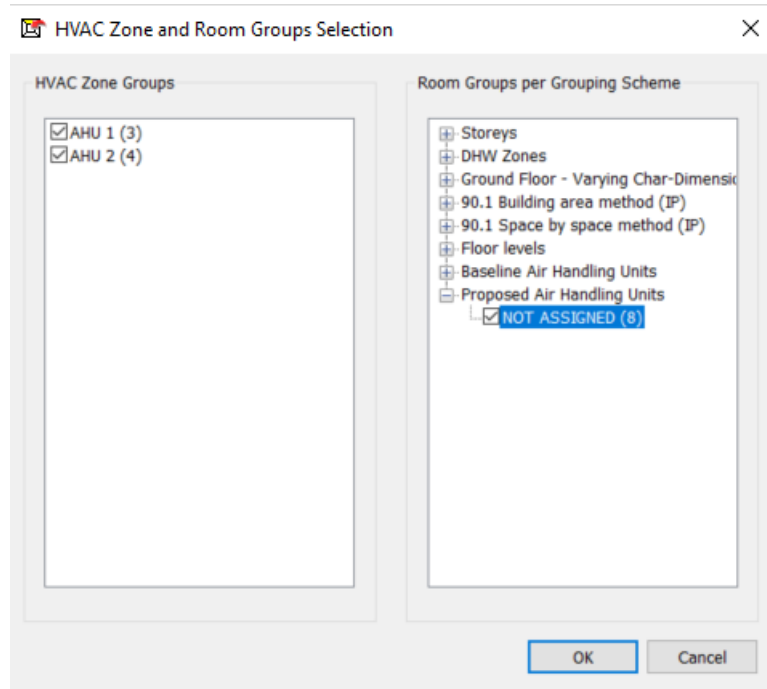

Figure 5: HVAC System Design Wizard (HVAC Zone Selection of the Proposed-Airside)
- Assign HVAC zone and room groups (Figure 5)